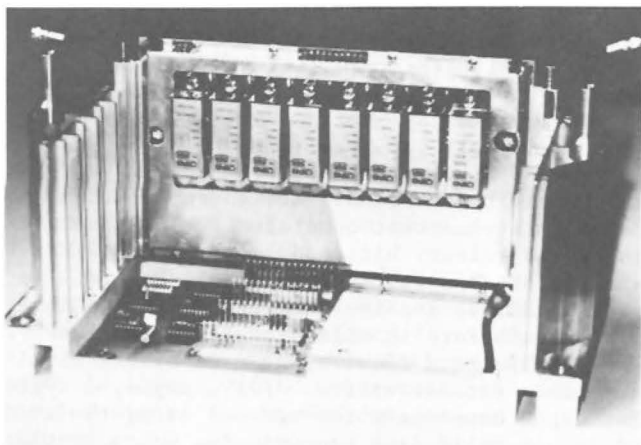

Fig. 8 Subscriber Module and Housing Modules removed from weather housing
The subscriber terminal electronics consists of a security housing and up to four (4) plug-in subscriber modules (Figure 8). The terminal is powered through the subscriber coaxial drop from pocket calculator size, low voltage power supplies on the subscriber premises. A four subscriber terminal is capable of being powered from a single power supply in the event that all other subscribers on the housing unplug their power supplies or have disconnected service.